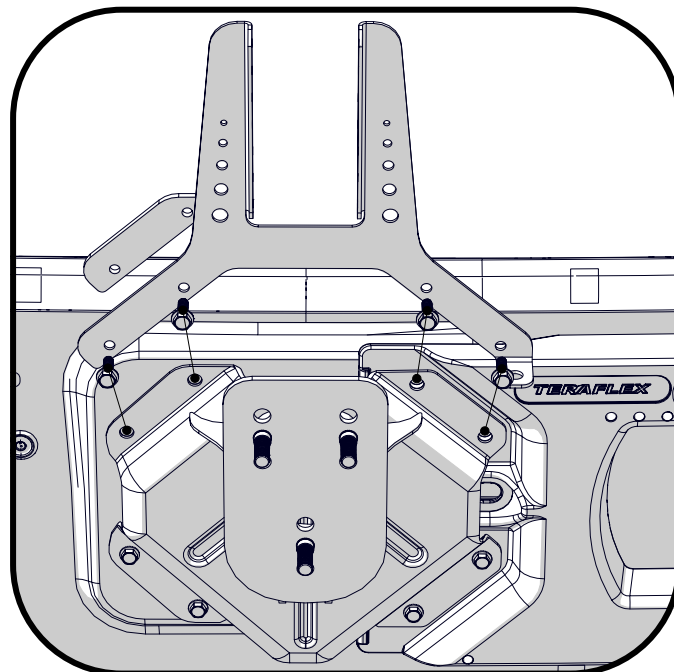

Figure 2
2. Install the brake light extension base (**999121**) using the 4 bolts you just removed. Be sure to place the included spacer (**997226**) between the tire mount and the brake light extension base. Torque bolts to 21 ft-lbs (28 N-m). (Figure 2)